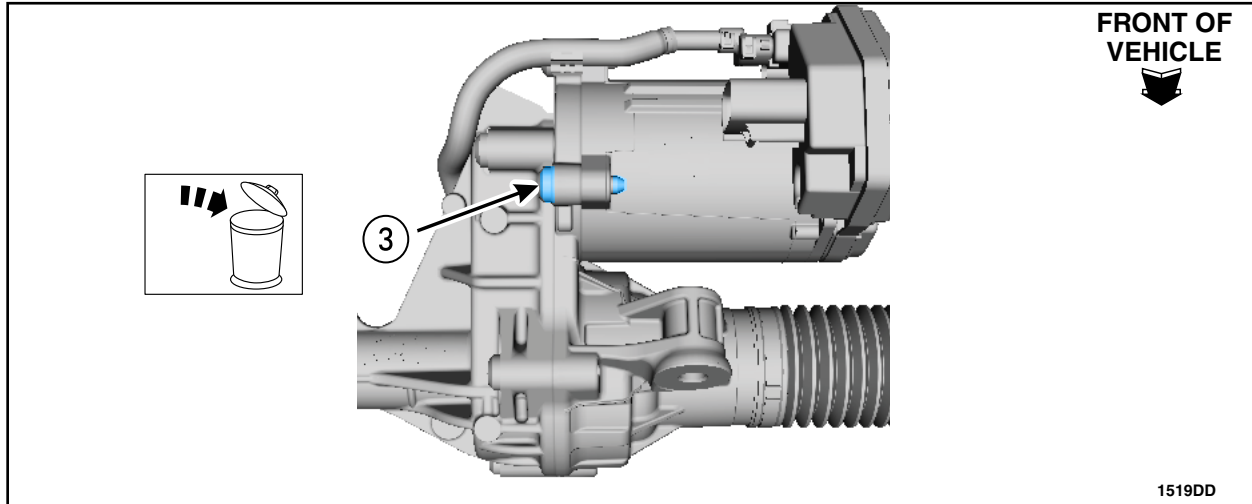

FIGURE 11
2. Working from the rear of the subframe, replace steering gear motor bolt three, then proceed to "Apply Corrosion Protection" on Page 7. See Figures 11 and 12.